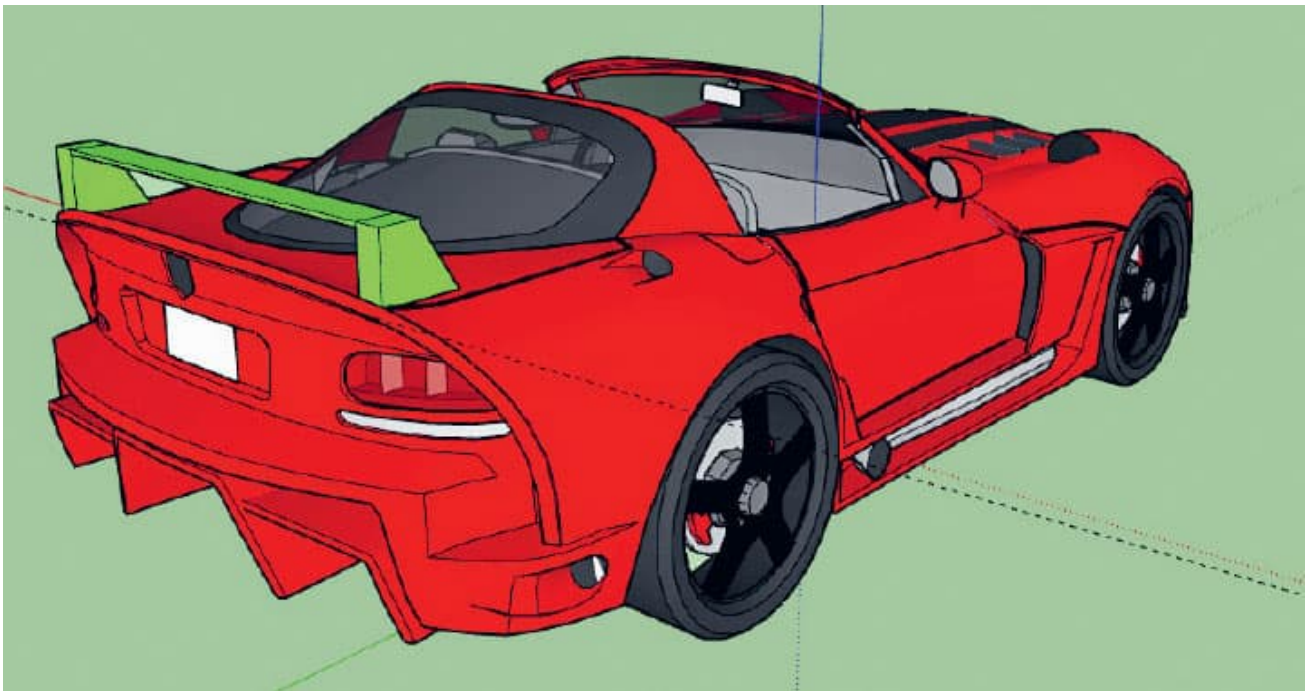

FIG. 5: *Merge the wing and brackets and move to the car.*
5. Move the rear wing and brackets together to the rear of the car as seen in fig. 5.